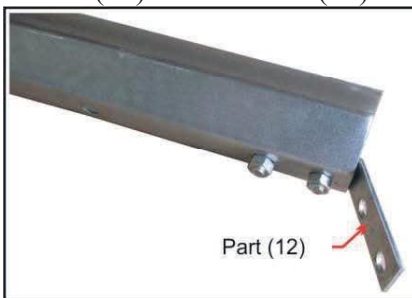

Fig. 9.1
9. The assembled and fixed upper bars (No. 2) are tightened to the upper parts of the side – lower bars (No. 1) with M5-12 bolts (27) and M5 nuts (30) with the bar connection plates (12) (Fig. 9.1 – 9.3).